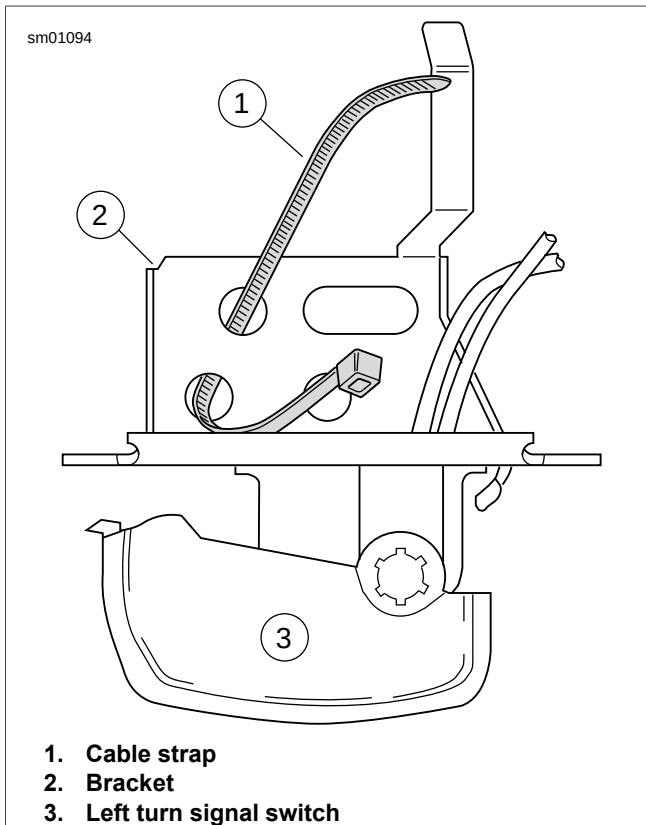

Figure 6-151. Insert Cable Strap in Switch Bracket
1. See Figure 6-151. Insert tapered end of **new** 7.0 in (177.8 mm) cable strap (1) into round hole in turn signal switch bracket (2) and then feed back through using the adjacent hole. Reserve the oblong hole for the bracket screw.